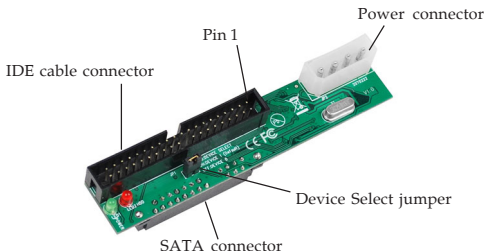

Figure 1. Layout
- **IDE cable connector:** plug in your IDE cable here, make sure the stripe on the cable is oriented to **Pin 1** on the connector. Plug the other end of the IDE cable into the IDE host adapter of your computer, see **Figure 1** on page 2 for more information. Up to two IDE devices can be connected onto one IDE cable, in this case, one device must be jumpered **Master** and the other jumpered **Slave**, when connecting only one device, it must be jumpered **Master**.